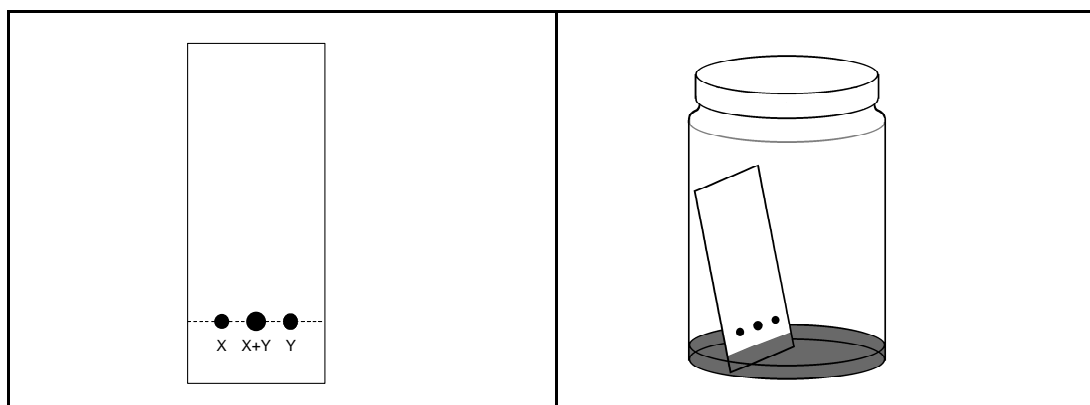

Fig. 1.1 Spots on the TLC plate before development;
- (2) Add 1 g UHP (wear gloves) and stir the mixture. (Caution: this reaction is exothermic.)
- (3) For thin layer chromatography (TLC) analysis, prepare a mixture of ethyl acetate and heptane (1 : 2 in volume) using a measuring glass and place an appropriate amount of the mixture in a TLC developing chamber. Add 1 cm³ of ethyl acetate to the vial (labelled as 1,4-DHP TLC) to dissolve 1,4-DHP (3 mg).
- (4) Check your TLC plates before using. If they are damaged, they can be replaced without penalty. Draw a start line on the lower portion of a TLC plate with a pencil (see Fig. 1.1).
- (5) During the reaction, the reaction mixture becomes clear (usually within 20 min). When the reaction mixture becomes clear (the precipitates may form when it cools, but precipitates will not affect the TLC analysis), take a small portion of the mixture using a glass capillary and load it to make two spots in the centre and right positions on the TLC plate. Load an appropriate amount of the 1,4-DHP solution prepared in procedure (3) in the centre and left positions, so that there are three spots on the plate, with the centre spot containing both the reaction mixture and 1,4-DHP (see Fig. 1.1). Develop the TLC plate in the TLC chamber (see Figs. 1.1 and 1.2). Mark the solvent front with the pencil. Visualize the spots using a UV lamp (254 nm) and draw a line around the UV-active spots on the TLC clearly with the pencil. Assess the completion of the reaction based on the TLC results. Repeat the TLC analysis after ten minutes, if you find significant amounts of 1,4-DHP in the reaction mixture. [Note that you will perform TLC analysis again in procedure (8).] Place the last TLC plate in a zipper storage bag marked "A."